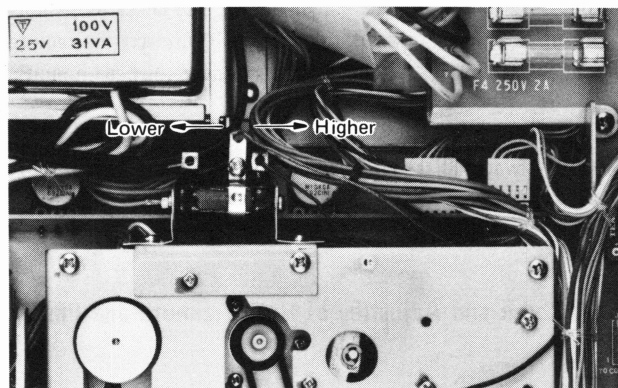

Fig. 5-8-1
- 2) The ceramic resistor on the transport is adjusted. Torque will decrease as the sliding contact is moved to the left and increase as it is moved to the right. Refer to Fig. 5-8-1.